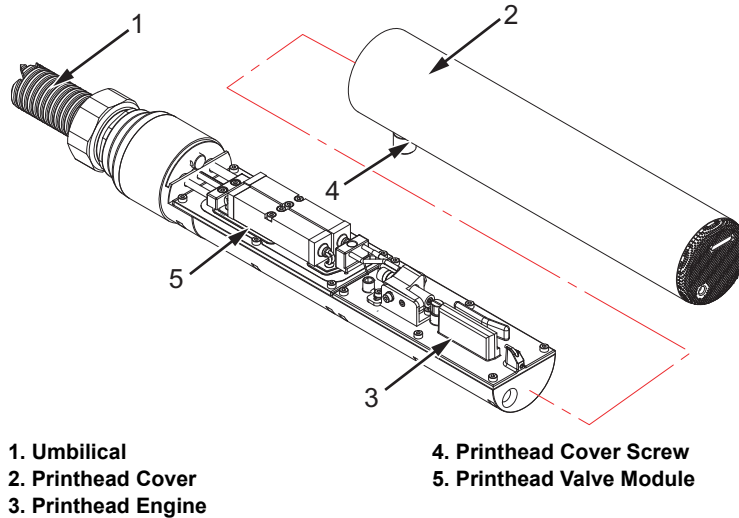

Figure 4-9: Printhead Cover Removed
- 14 Remove the printhead cover (see Figure 4-9 on page 4-9) and inspect for damages like: